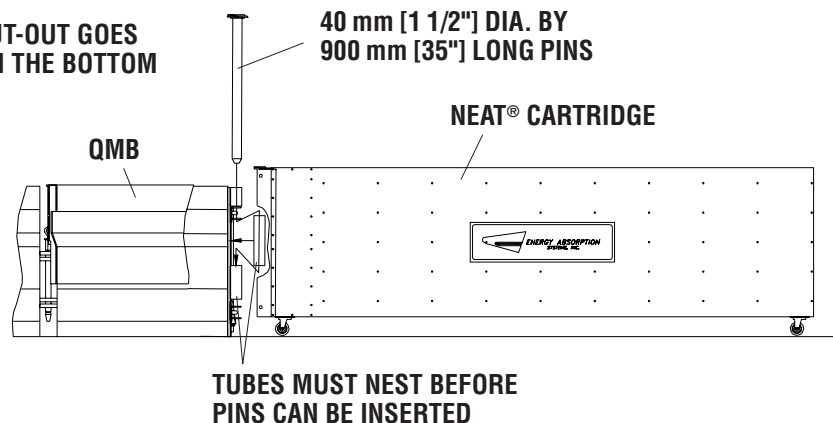

Figure 20
Step 9: Cartridge/Backup to Support Frame Attachment (See Figure 20)